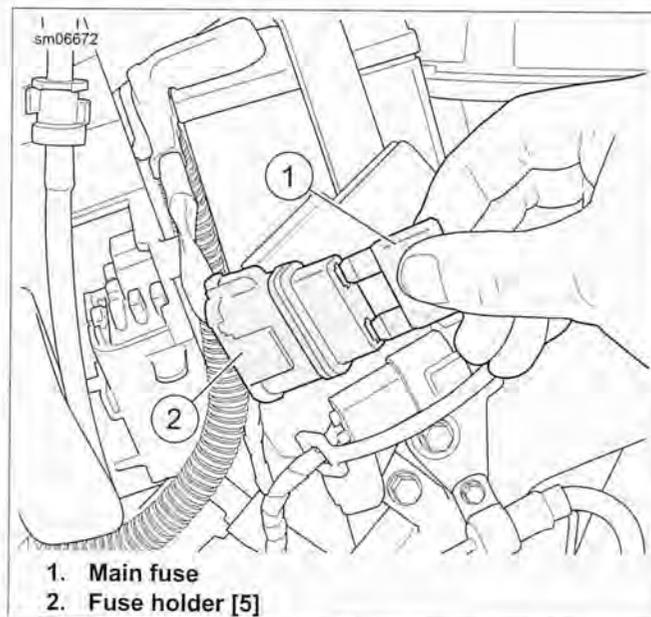

Figure 6-135. Removing/Installing Main Fuse
3. See Figure 6-135. Grasp fuse holder (2) and pull main fuse (1) straight out.
2. See Figure 6-135. Install main fuse (1) by lining up spade terminals on fuse with sockets in fuse holder [5] (2). Press fuse firmly into holder.